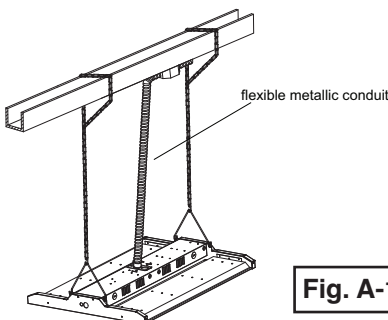

Fig. A-1
3. Connect the V-hooks to the chains with the hooks on each chain. Adjust the height of the installation by locking the chain hook on the other side of the chain. **(Figure A-1)**
4. Use the flexible metallic conduit to run the line, neutral and ground wires for powering the fixture. **(Figure A-1)**